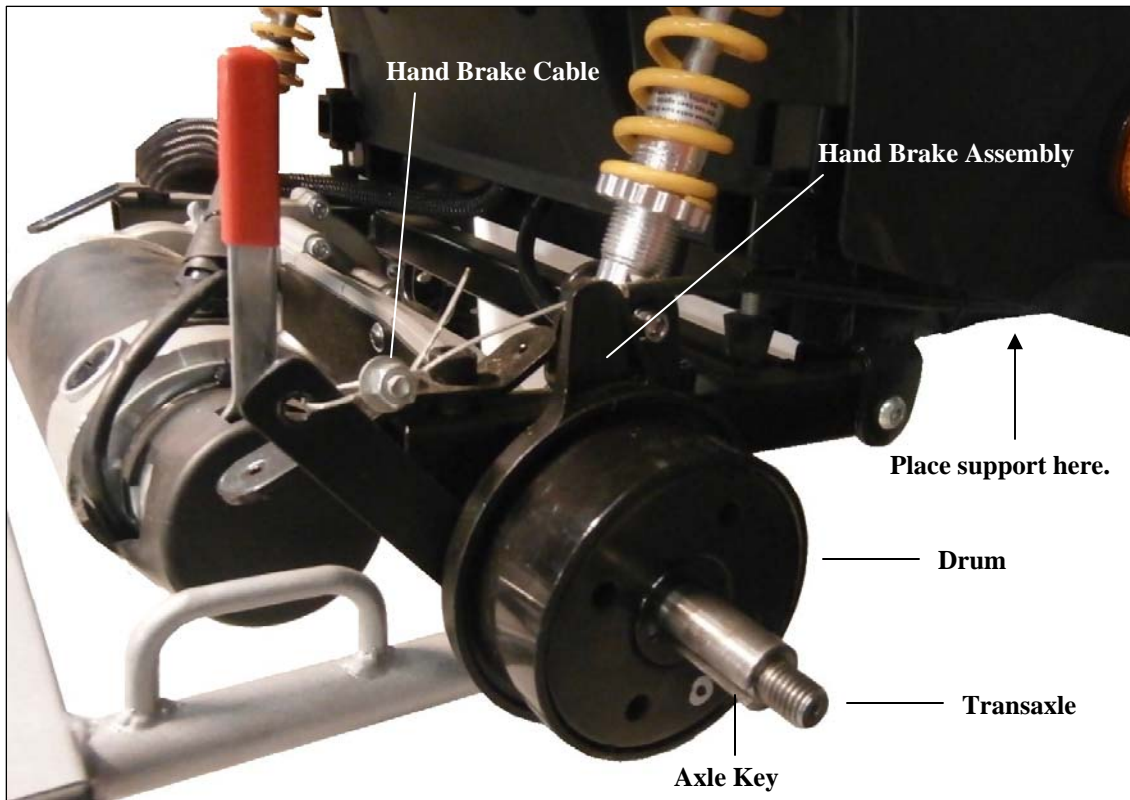

Figure 13. Drum Brake (Rear Section)
- 7) Slide the drum off the transaxle. See figures 13 and 14 on page 19.